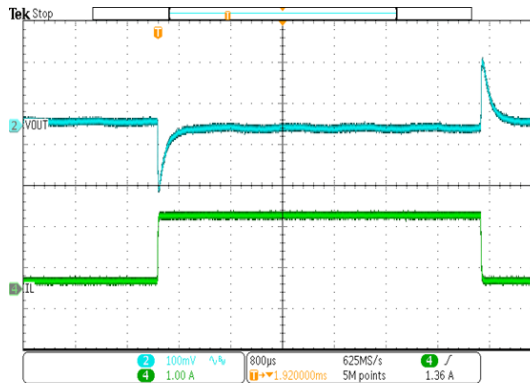

Figure 19. Load Transient (Vout=5V, Iout=0.2A to 1.8A, SR=250mA/us)
The SCT9325 feature external programmable output voltage by using a resistor divider network R_1 and R_2 as shown in the typical application circuit Figure. 19. Use equation (11) to calculate the resistor divider value.